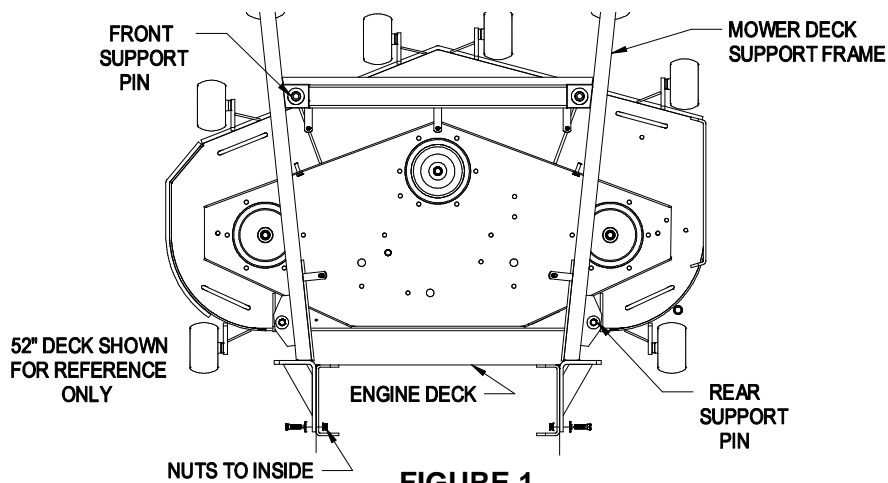

FIGURE 1
- 3.5.2 Remove mower deck support frame from mower deck by removing the two hairpins and spacers from the front deck support pins and by removing the two hairpins and spacers from the rear deck support pins. See Figure 1.
- 3.5.3 Install mower deck support frame to tractor engine deck and secure using (8) 3/8-16 x 1 1/4" screws, (8) disc spring washers and (8) whizlock nuts from bolt bag. See Figure 1.
NOTE: Place spring washer cone side against bolt head (cupped side away from head) and install to outside of support frame as shown in Figure 1. Install with whizlock nuts to the inside of engine deck. Tighten until spring washers are flat.
Align and re-install the mower deck support pins into the support frame. Install the two spacers and hairpins onto the front support pins and the two hairpins and spacers onto the rear support pins. See Figure 1.